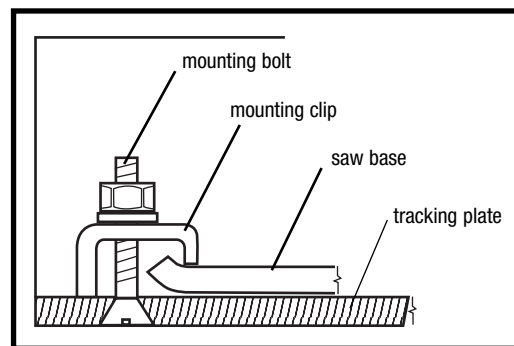

fig. 3 - Mounting the Saw Base
**Attaching the Saw Tracking Plate to Your Saw** (see fig. 3) (see page 7 for router mounting instructions)